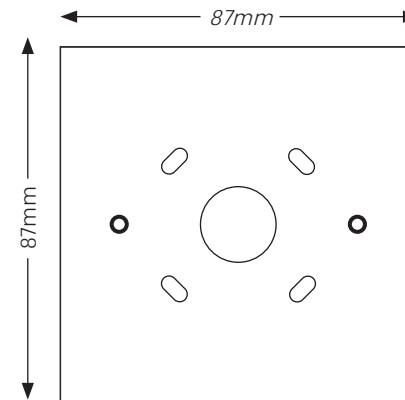

Fig 1 Backbox
1. Fit the backbox (Fig 1) to the wall.